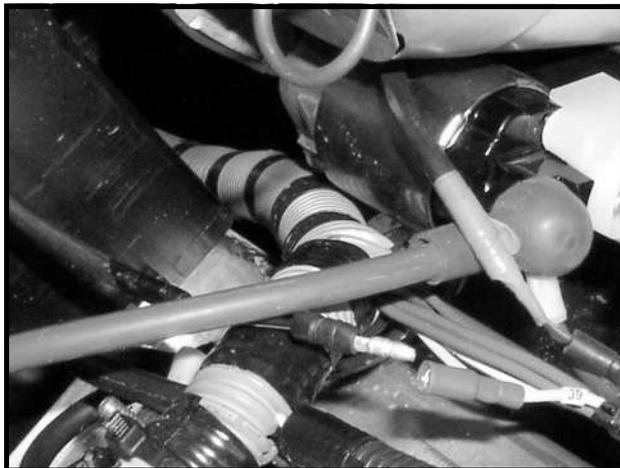

Figure 11a-16 Carburetor Coil Bullet Connector
4. Disconnect the 18-gauge yellow wire (w39) from the carburetor solenoid bullet connector (**Figure 11a-16, Page 11a-20**).